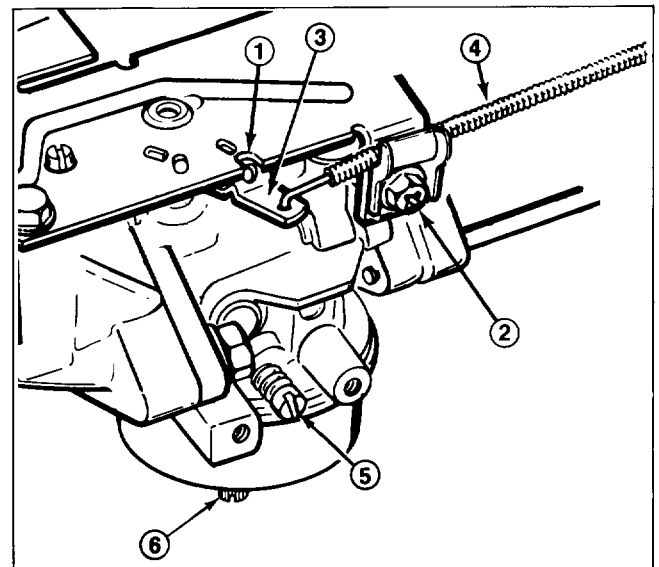

Figure 15
1. Move throttle control into FAST detent position. Hole in carburetor control arm and notch in bracket must line up (Fig. 15). If holes line up throttle is adjusted correctly. If holes do not line up, an adjustment is required: proceed to step 2.
2. Loosen cable clamp screw and move control arm and cable until holes line up (Fig. 15). When holes are aligned, tighten cable clamp screw to hold cable in place (Fig. 15).
1. Idle Adjusting Screw (Fig. 15) — Close screw by gently rotating it clockwise.
2. Rotate — open — the idle adjusting screw 1-3/4 turns counterclockwise (Fig. 15).
3. Main Adjusting Screw (Fig. 15) — Close screw by gently rotating it clockwise. Rotate — open — idle mixture screw 2 turns counterclockwise.